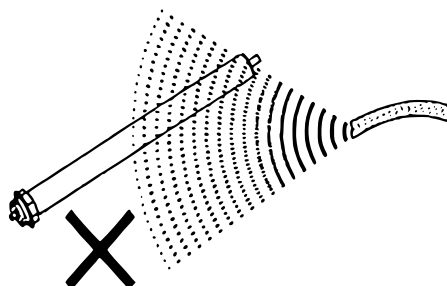

Fig. 1
- Do not clean the motor with water and do not expose it to high levels of moisture (Fig. 1).